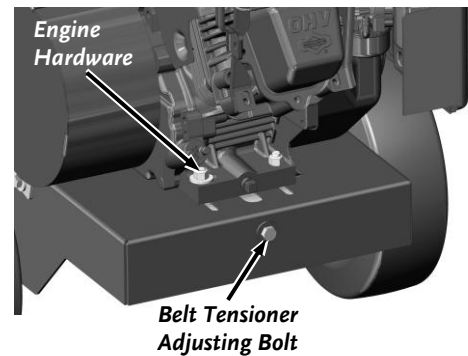

Figure 24
4. Loosen the Engine mounting hardware (**Figure 24**).
2. Tighten the Adjusting Bolt on the Belt Tensioner to take up the slack in the Belt, but not too tight at this point (**Figure 24**).
5. Tighten the Engine Hardware (**Figure 24**)
8. If the measurement is not correct, loosen the Engine Bolts and tighten or loosen the Adjusting Bolt as needed (**Figure 24**).